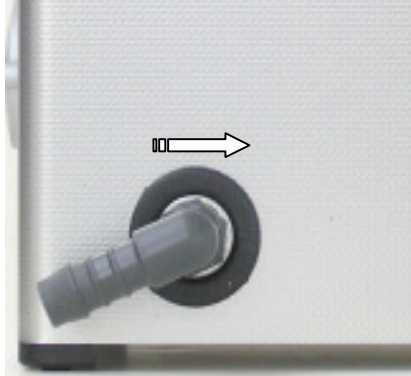

Fig 5.2.2 Drain fitted with hose nozzle
3. Turn the hose nozzle into the required drain position (see Fig 5.2.2).